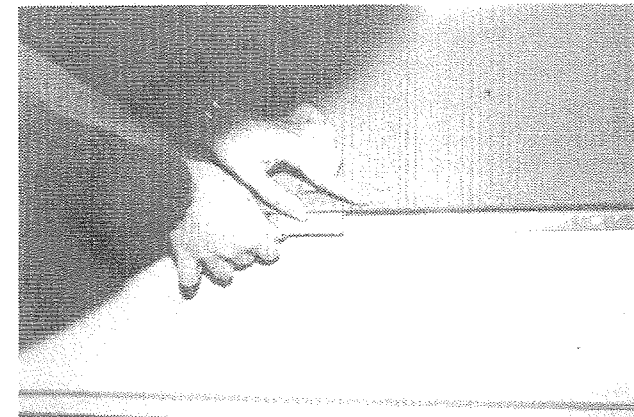

Figure 10
15. Pull canopy support to full vertical position and tighten guy ropes. Clamp canvas to rail using retainers shown in Figure 10 beginning at left rear corner by rotating the canvas tubular seal 90° and inserting into continuous slot located on the body side rail directly above the tarp-canvas locks. Clamp canvas along both sides and rear.